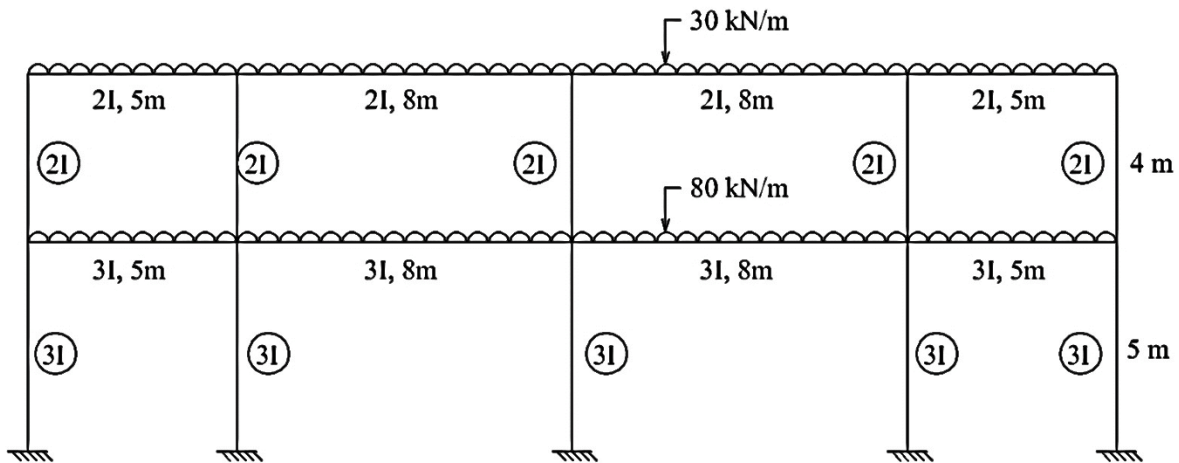

Fig. 1.4
4. Analyse the building frame shown in Fig. 1.4 for **gravity loads only** by substitute frame method. Draw BMD for the 1st floor and tabulate the maximum values obtained for the following cases: